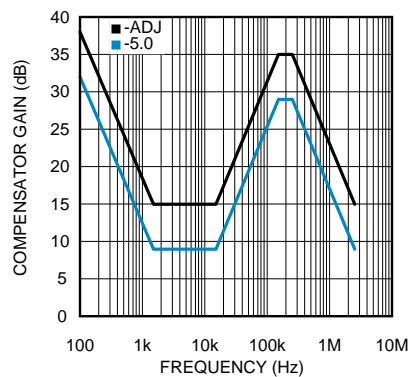

Figure 19. Compensator Gain
The complete transfer function for the regulator loop is found by combining the compensation and power stage transfer functions. The LM22677 has internal type III loop compensation, as detailed in Figure 19. This is the approximate "straight line" function from the FB pin to the input of the PWM modulator. The power stage transfer function consists of a D.C. gain and a second order pole created by the inductor and output capacitor(s). Due to the input voltage feedforward employed in the LM22677, the power stage D.C. gain is fixed at 20dB. The second order pole is characterized by its resonant frequency and its quality factor (Q). For a first pass design, the product of inductance and output capacitance should conform to the following equation: